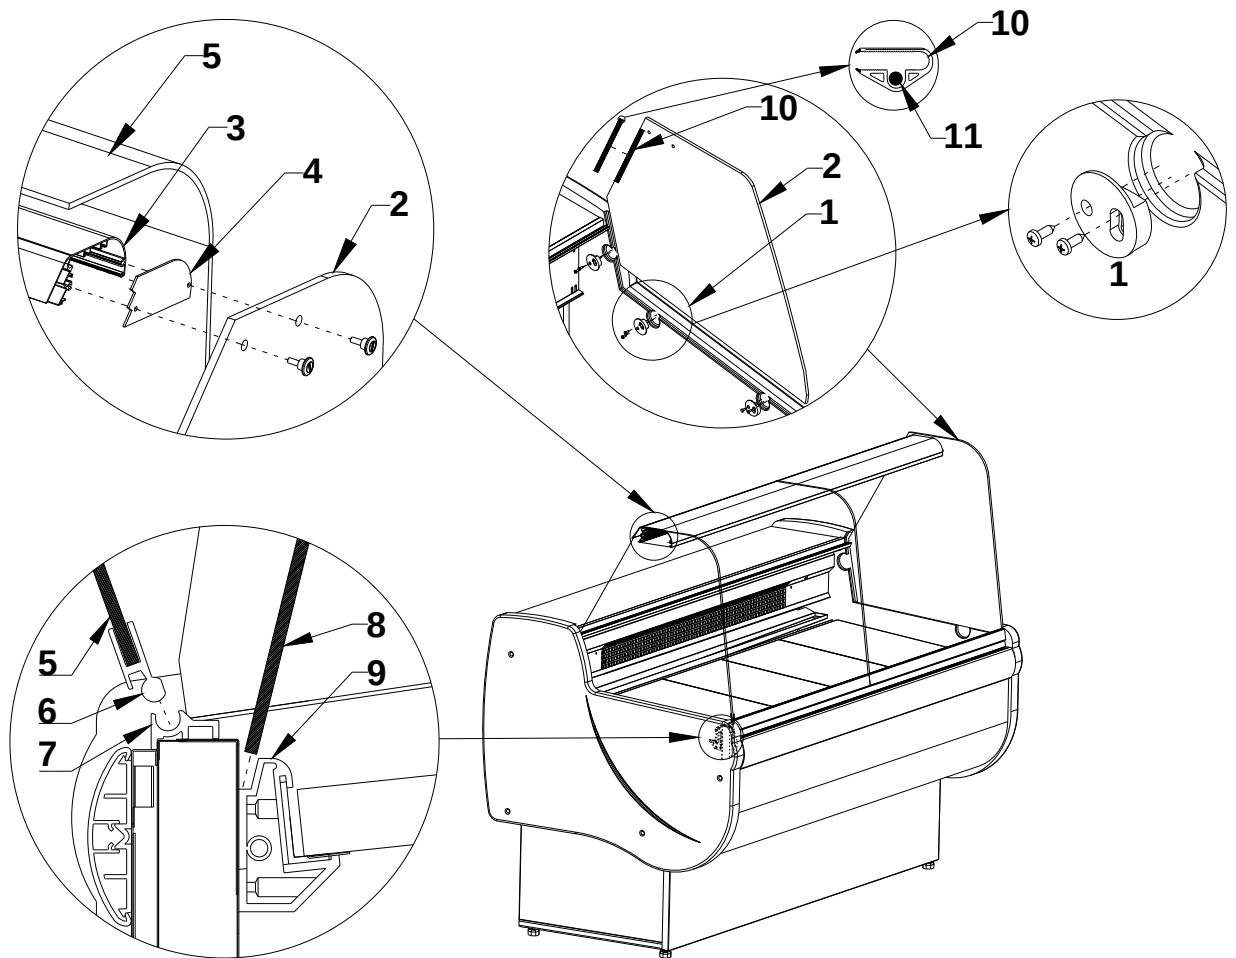

Fig.4 Assembly of glass elements and aluminium lamp
2. Mount glass sides Fig.4/2;1 \(p.8\)
3. Mount the aluminium lamp (together with lighting) on glass sides Fig.4/3 \(p. 8\)
4. Mount the casing of lamp conduit Fig.4/ 10 \(p.8\)
5. Mount front screen Fig.4/ 8 \(p.8\)
6. Mount front glasses of the display cabinet Fig.4/ 5 \(p.8\)